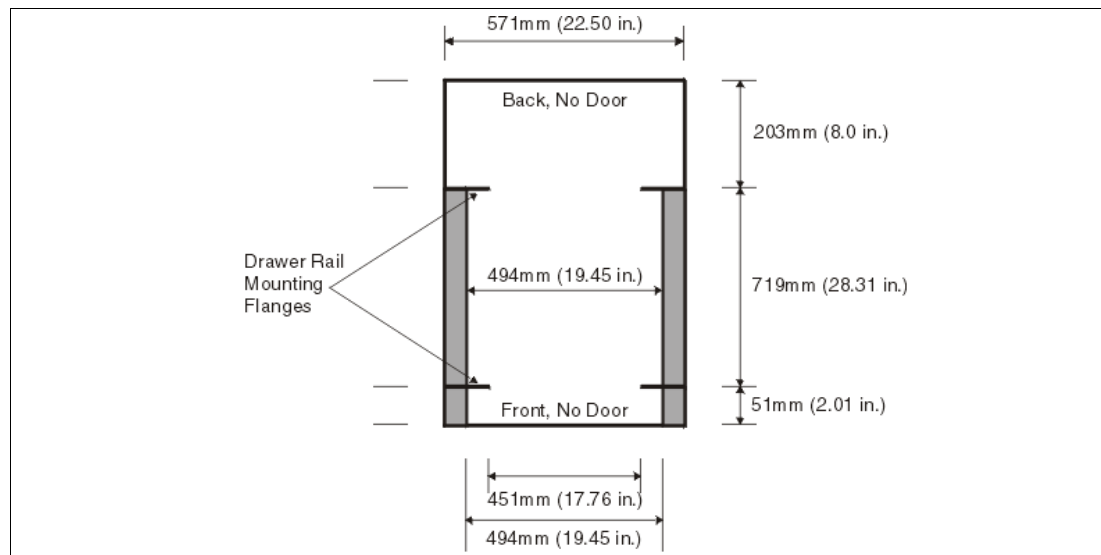

Figure 1-5 Top view of non-IBM rack specification dimensions
- The front rack opening must be 451 mm wide + 0.75 mm (17.75 inches + 0.03 inches), and the rail-mounting holes must be 465 mm + 0.8 mm (18.3 inches + 0.03 inches) apart on center (horizontal width between the vertical columns of holes on the two front-mounting flanges and on the two rear-mounting flanges). See Figure 1-5 on page 21 for a top view showing the specification dimensions.